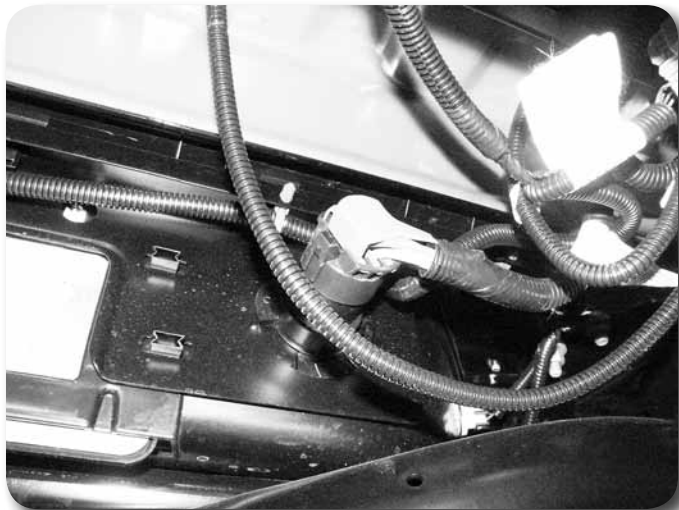

Figure 2
4. If equipped, disconnect the trailer wiring connector from the bumper **Figure 2**.